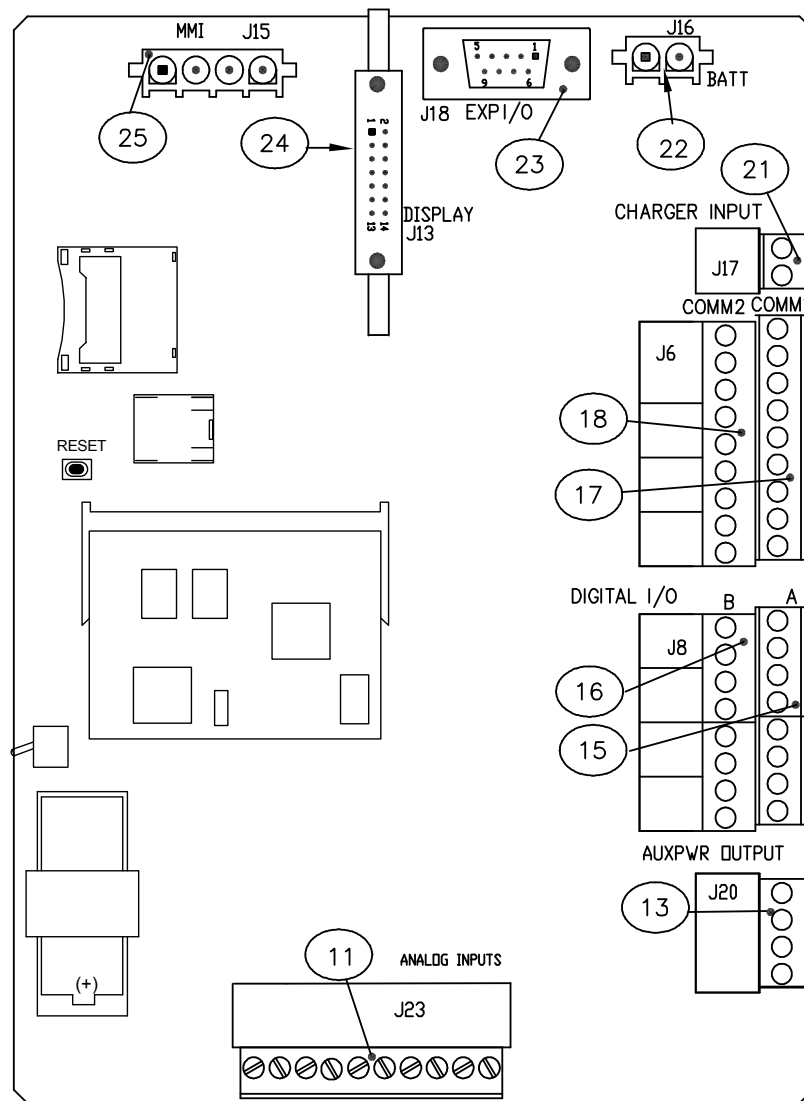

Figure 72: XRCG4 board connections
- If used, disconnect the external charging source, J17 (Figure 72: *XRCG4 board connections*, Item 21).
- J13 LCD Connector (Figure 72: *XRCG4 board connections*, Item 24)